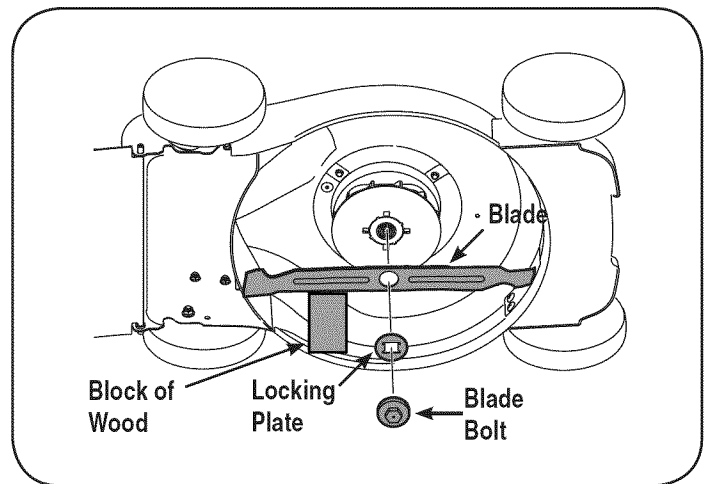

Figure 15
2. Place a 2x4 block of wood approximately 8.5" long between the deck housing and the cutting blade to act as a stabilizer. See Figure 15.
3. Loosen and remove the blade bolt, locking plate, and blade. See Figure 15.